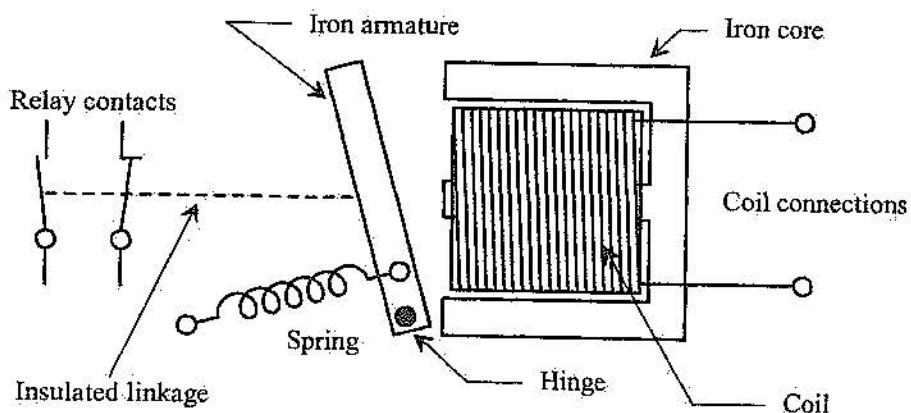

Figure 2
8. Using a red pen, neatly draw a dotted line onto the diagram of figure 2 to indicate the path of the magnetic flux when the coil is energised.